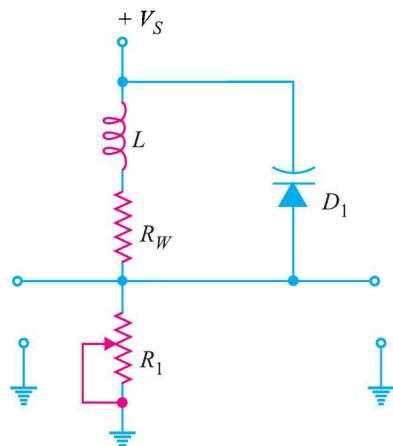

Fig. 7.23
We have discussed that we can increase or decrease the junction capacitance of varactor diode simply by changing the reverse bias on the diode. This makes a varactor diode ideal for use in circuits that require voltage-controlled tuning. Fig. 7.23 shows the use of varactor diode in a tuned circuit. Note that the capacitance of the varactor is in *parallel* with the inductor. The varactor and the inductor form a parallel *LC* circuit. *For normal operation, a varactor diode is always operated under reverse bias.* In fact, this condition is met in the circuit shown in Fig. 7.23. The resistance  $R_W$  in the circuit is the *winding resistance* of the inductor. This winding resistance is in series with the potentiometer  $R_1$ . Thus  $R_1$  and  $R_W$  form a voltage divider that is used to determine the amount of reverse bias across the varactor diode  $D_1$  and therefore its capacitance. By adjusting the setting of  $R_1$ , we can vary the diode capacitance. This, in turn, varies the resonant frequency of the *LC* circuit. The resonant frequency  $f_r$  of the *LC* circuit is given by;
**Example 7.5.** The *LC* tank circuit shown in Fig. 7.23 has a 1 mH inductor. The varactor has capacitance of 100 pF when reverse bias is 5V d.c. Determine the resonant frequency of the circuit for this reverse bias.